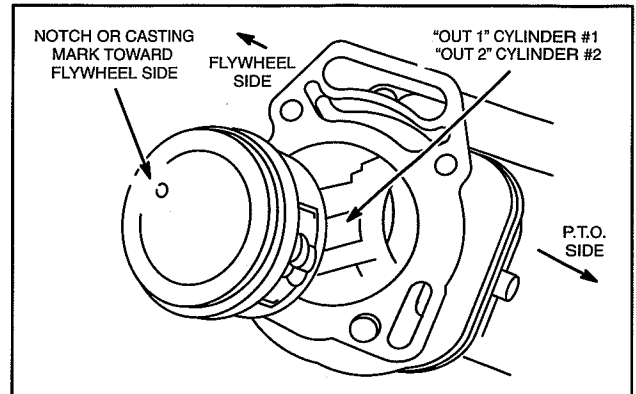

Fig. 3 – Installing Piston And Connecting Rod
3. Install #1 piston with notch or offset casting mark on piston toward flywheel side, Fig. 3.